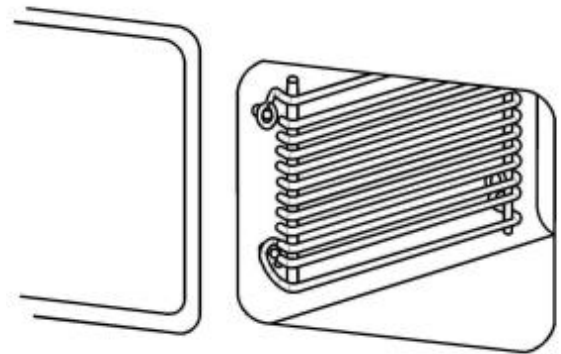

Figure 3-4 Slide Rack Installation
1. Refer to Figure 3-4. Each rack has four loops: two at the top and two at the bottom. Hold the slide rack so the ends of the hanger loops are towards the cavity wall, as shown in the figure.